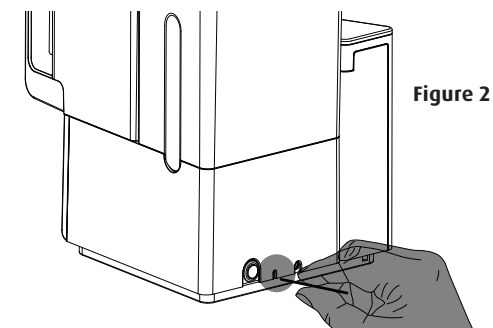

Figure 2
- 6 Press **Filter Reset Button** located on the back of the AquaTru® unit (Figure 2). Press and hold for at least **3 seconds**.